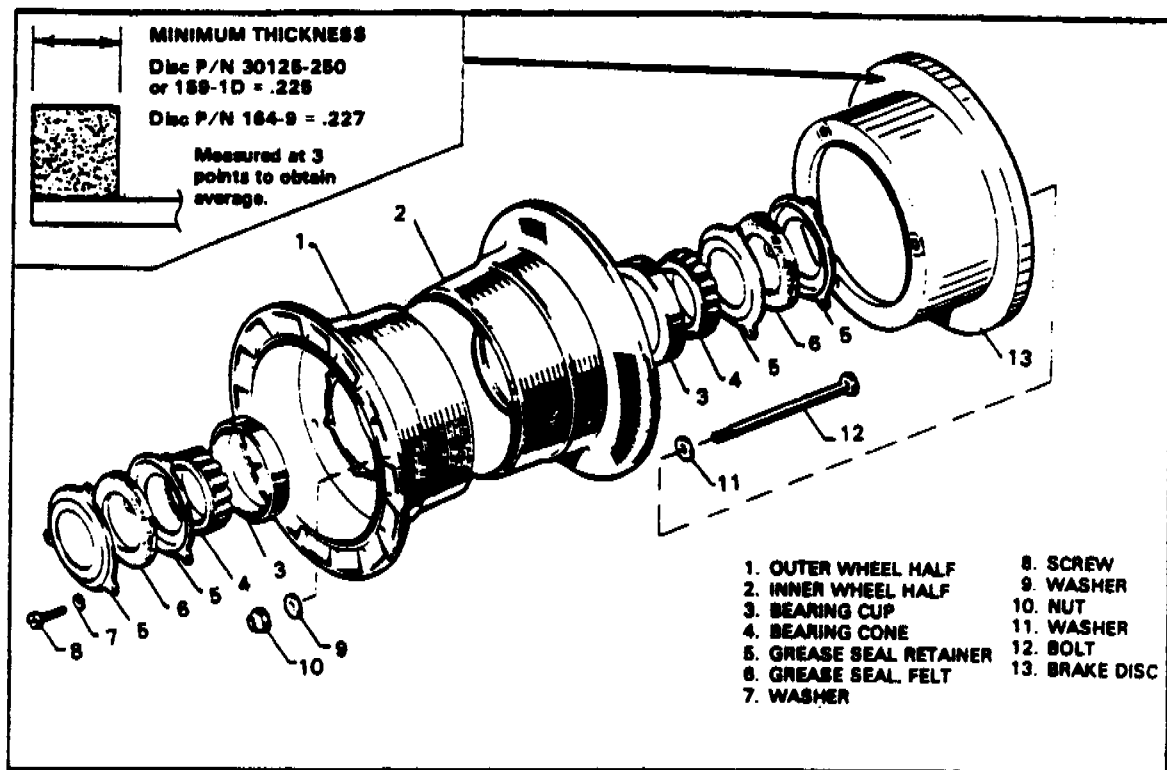
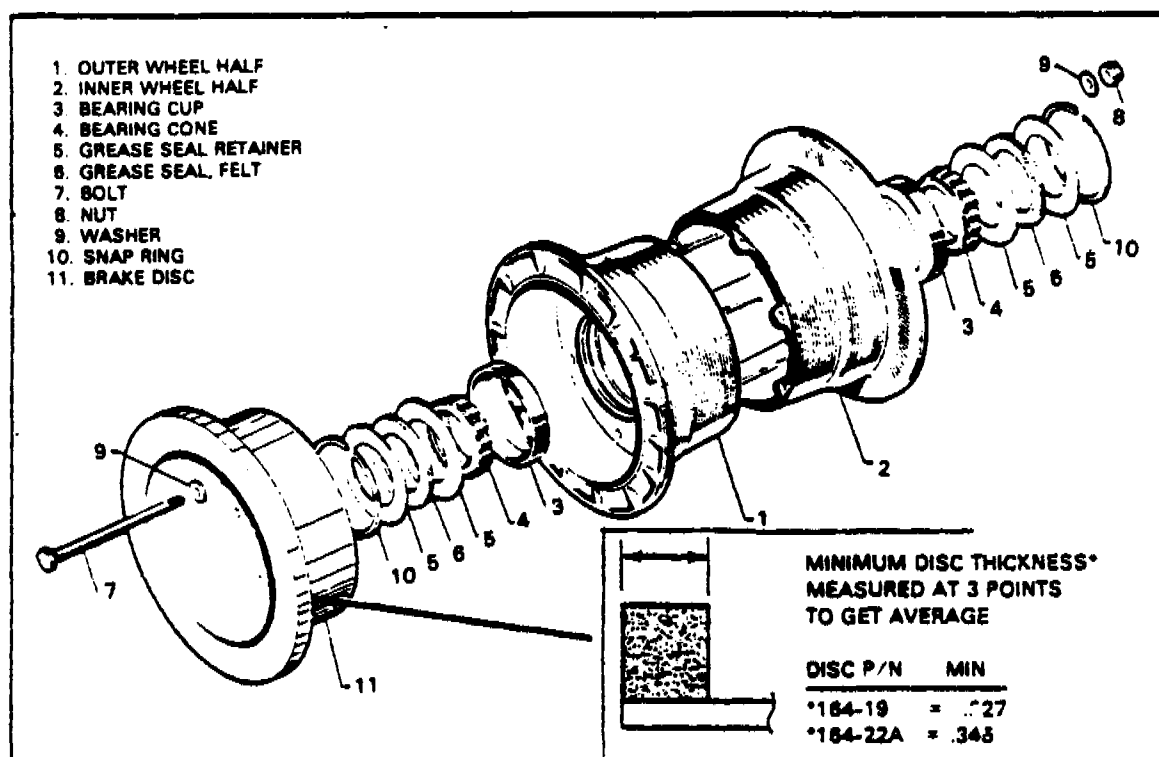

FIGURE 6-25. MAIN WHEEL ASSEMBLY (CLEVELAND) PA-24-180 and PA-24-250
FIGURE 6-26. MAIN WHEEL ASSEMBLY (CLEVELAND) PA-24-260 and PA-24-400
- c. On PA-24-180 and PA-24-250 airplanes, remove and disassemble the wheel as follows (refer to Figure 6-25):
- (a) Deflate the tire and remove the grease seal retainer (5) by removing the attaching screws (8).
- (b) Remove the bearing cones (4).
- (c) Remove the bolts (12) securing the wheel halves together.
- (d) The bearing cups (3) should be removed only for replacement and may be removed by tapping evenly from the inside.
- d. On PA-24-260 and PA-24-400 airplanes (Cleveland) PA-24-200 and PA-24-400, remove and disassemble the wheel as follows (refer to Figure 6-26):
3. The wheel may be disassembled by deflating the tire and removing the snap rings (10) securing the grease seals (6) and seal retainers (5).
4. Remove the bearing cones (4) and remove the bolts (7) securing the wheel halves.
5. The bearing cups (3) should be removed only for replacement and may be removed by tapping evenly from the inside of the wheel.
- e. On PA-24-180 and PA-24-250 airplanes, install the wheel as follows (Refer to Figure 6-25):
- f. On PA-24-260 and PA-24-400 airplanes, install the wheel as follows (Refer to Figure 6-26):